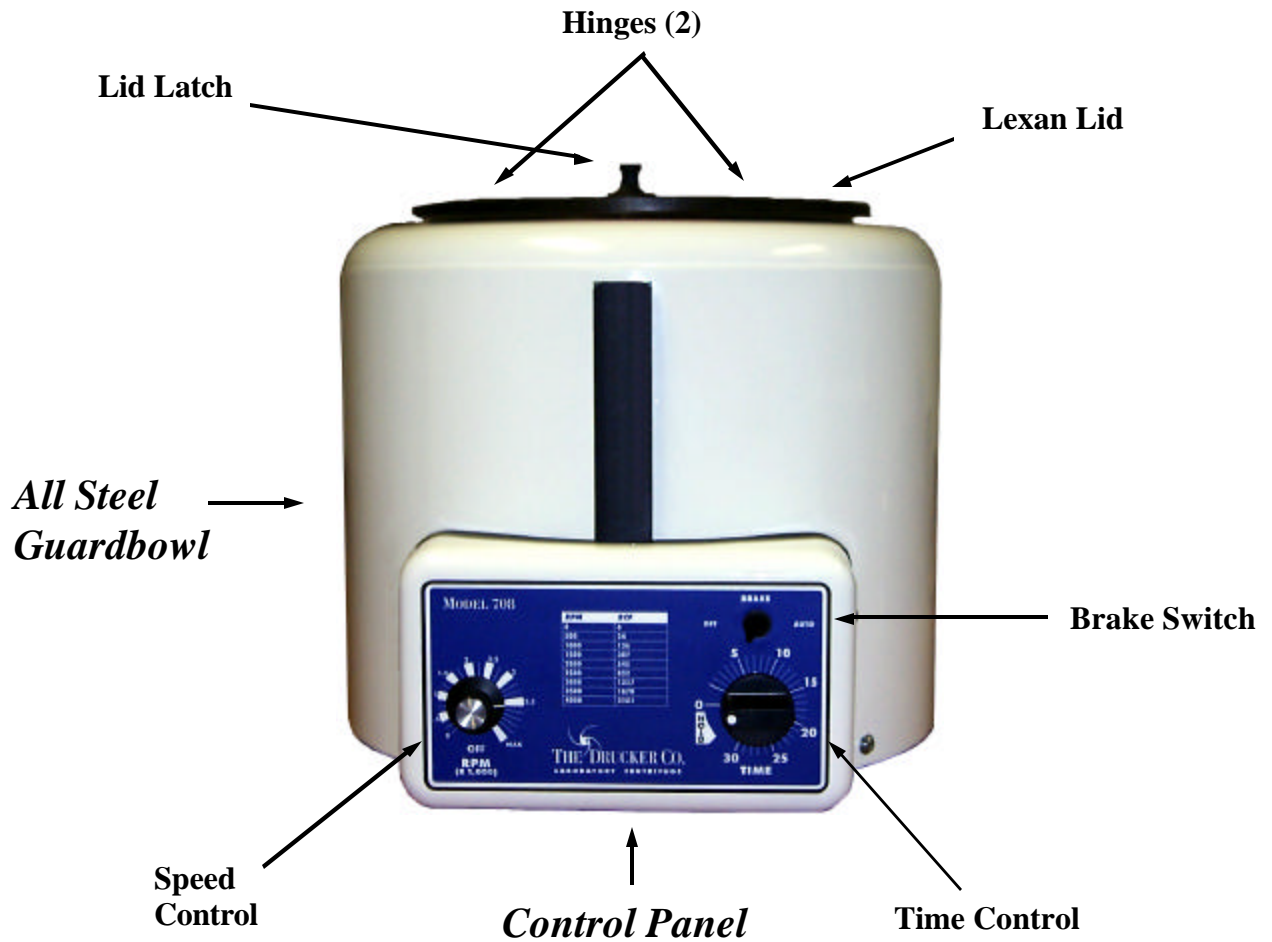

Figure 1.
1.3 Construction (see Figures 1, 2A and 2B)